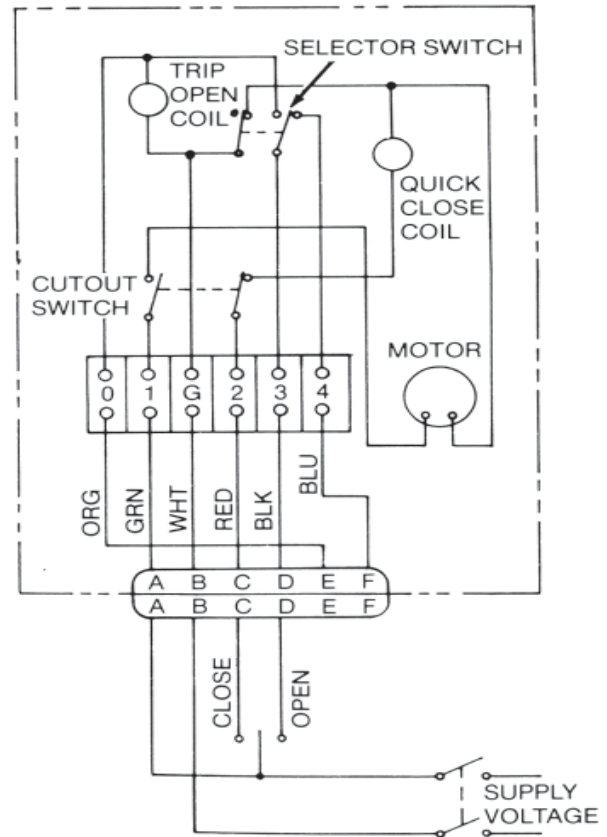

Figure 49.
- a. To close the switch, apply rated operating voltage across terminals 1 and G. If the closing spring is not preloaded, the motor will operate to extend the spring (approximately 10 seconds). When closing spring is preloaded, temporarily jumper terminals 1 and 2 to energize the Quick Close solenoid. Refer to Figure 49.
- b. To open the switch, apply rated operating voltage across terminals 3 and G to energize the trip solenoid. Refer to Figure 49.